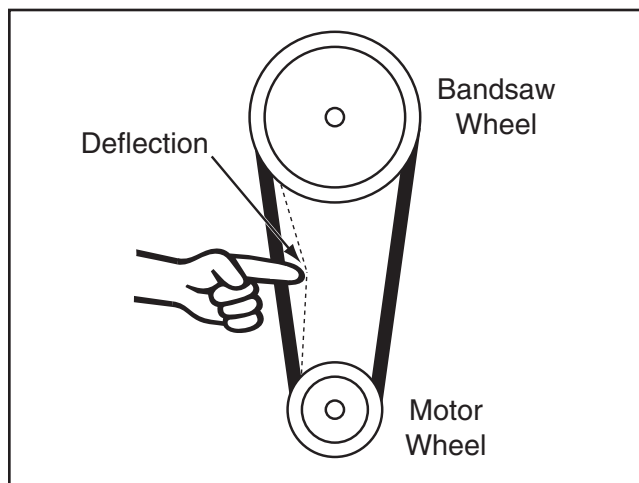

Figure 42. V-belt deflection.
6. Tension the V-belt(s) to deflect approximately $\frac{1}{2}$ " (see **Figure 42**).